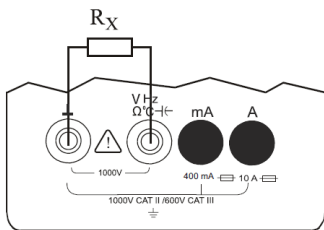

Fig. 4
- Connect the device under test as shown in figure 4.